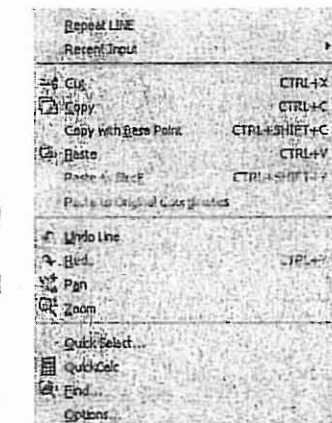

Fig.III-3. Default mode
**DEFAULT** - At the drawing area, with no command in progress, or selection set available, right click. (fig.III-3)